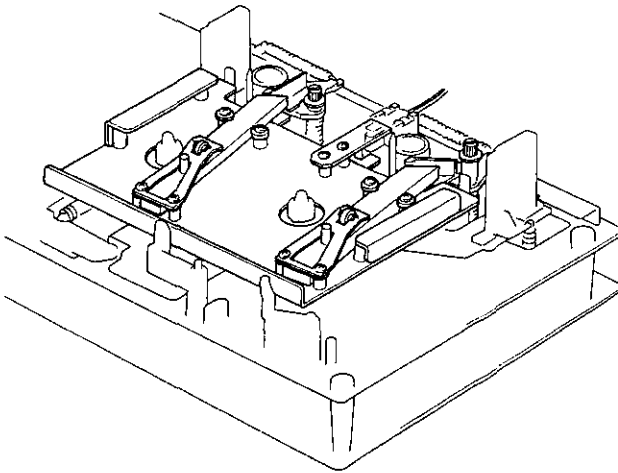

Fig. 4.9
Remove Head Mount Base Ass'y referring to item 2.31. Refer to Figs. 4.9 and 4.10.
(1) Supply Tape Guide Height Adjustment